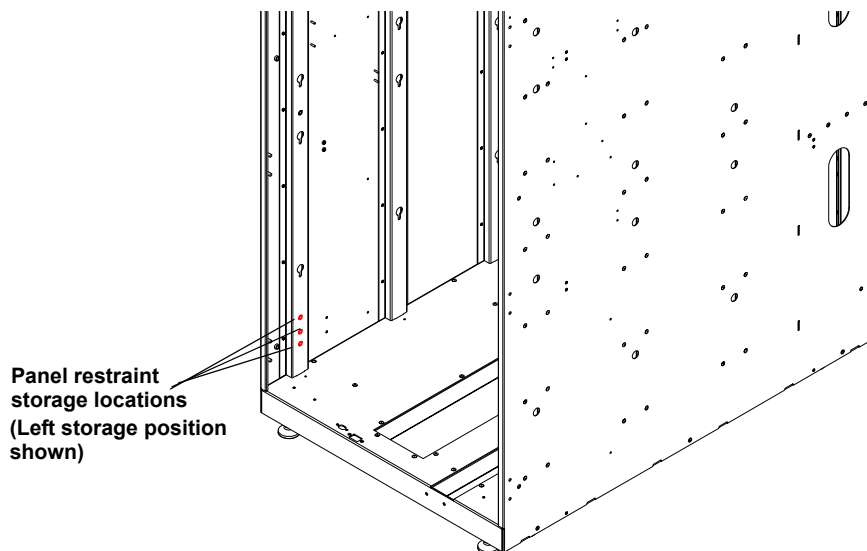

Figure 23: Storing the panel shipping restraints
16. Store the panel shipping restraint hardware (three sets on each side) on the lower cabinet frame (see Figure 23).